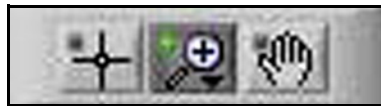

Figure 75: Graph Tools
3. There is a series of Graph Tools available at the top left of the trend plot area (see *Figure 75* below).